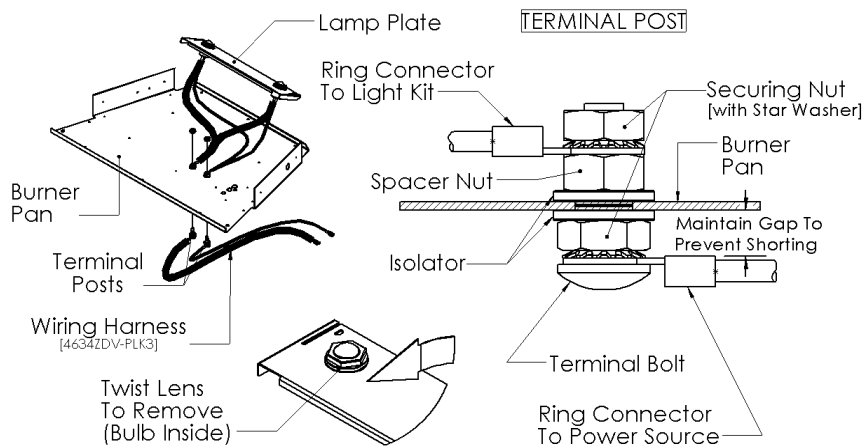

Figure 1 - Lamp Plate installation and terminal post diagram.
1. Remove the Grate Bar assembly (Fig. 1). If Rocks are to be used, skip to step 4.
**Rock Setup** (Fig.1)